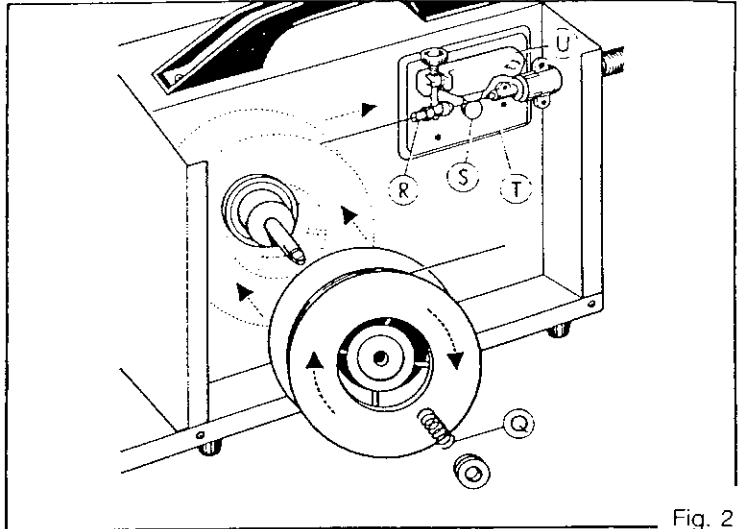

Fig. 2
Lower the wire holder group (U) taking care that the wire is remained inside the spline (groove) of the shaft. (Fig. 2)
Insert the clutch spring (Q) and lock with the washer (H) and then act as shown in Fig. 2.
N.B. When you use a \varnothing 200 (kg. 5) coil, assemble the reel outside support (9) given as equipment before the clutch (Q) spring.